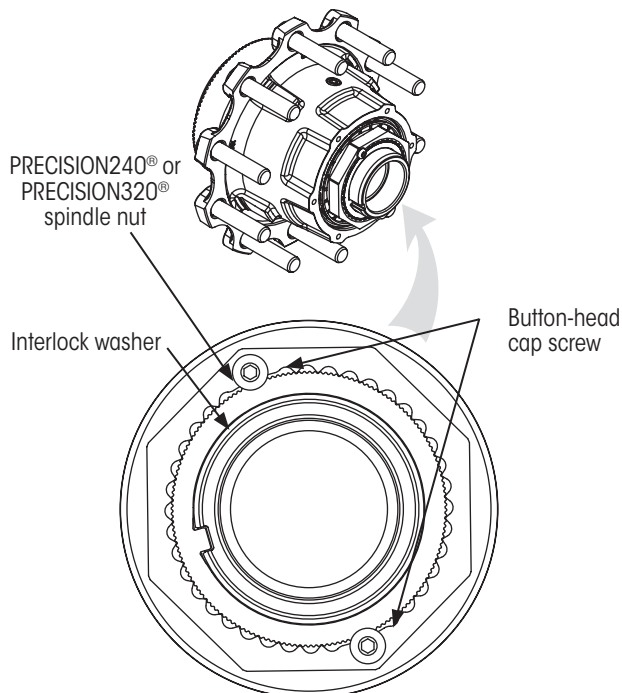

Figure 7: Button-head cap screw on PRECISION240® or PRECISION320® nut system
4. Using a hex key (TOOLS REQUIRED on page 6), **remove** button-head cap screws from interlock washer **Figure 7**.